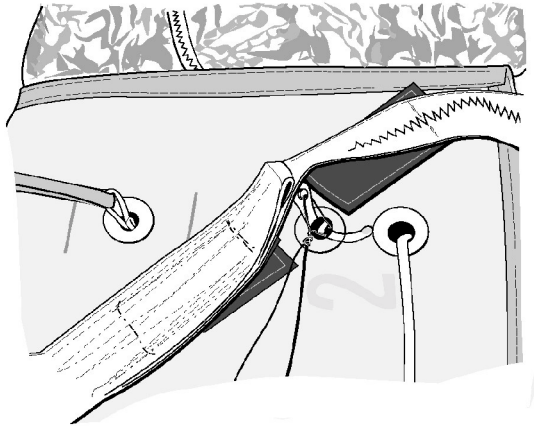

Figure 17. Safety Tie of Curved Pin
e. Using one turn E thread, route through eye of curved pin and around closing loop. Tie off with a surgeon's knot, followed by a square knot (Figure 17).